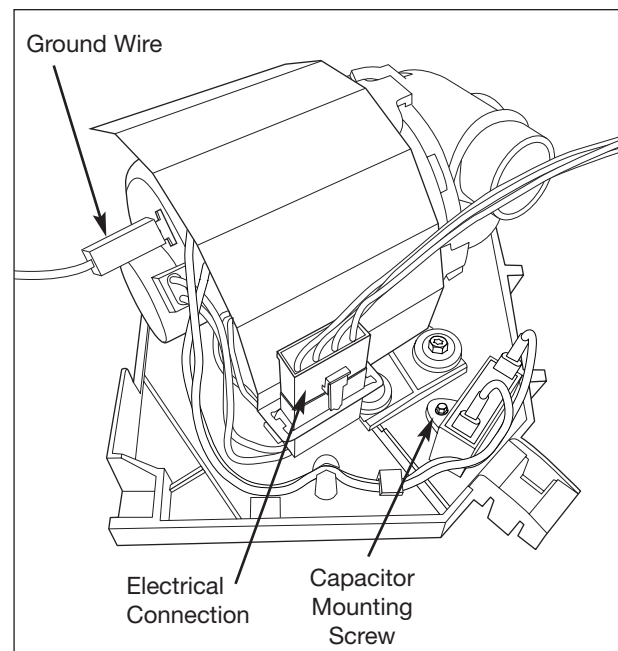

Figure 5-39. Wash Pump and Motor Electrical Connections
5. Disconnect ground wire from wash motor terminal. (See Figure 5-39)